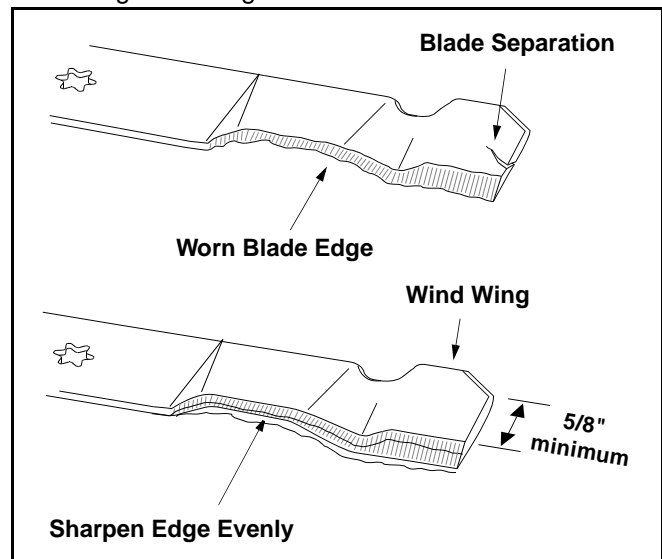

Figure 29
To properly sharpen the cutting blades, remove equal amounts of metal from both ends of the blades along the cutting edges, parallel to the trailing edge, at a 25° to 30° angle. See Figure 29.
**IMPORTANT:** If the cutting edge of the blade has already been sharpened to within 5/8" of the wind wing radius, or if any metal separation is present, replace the blades with new ones. See Figure 29.